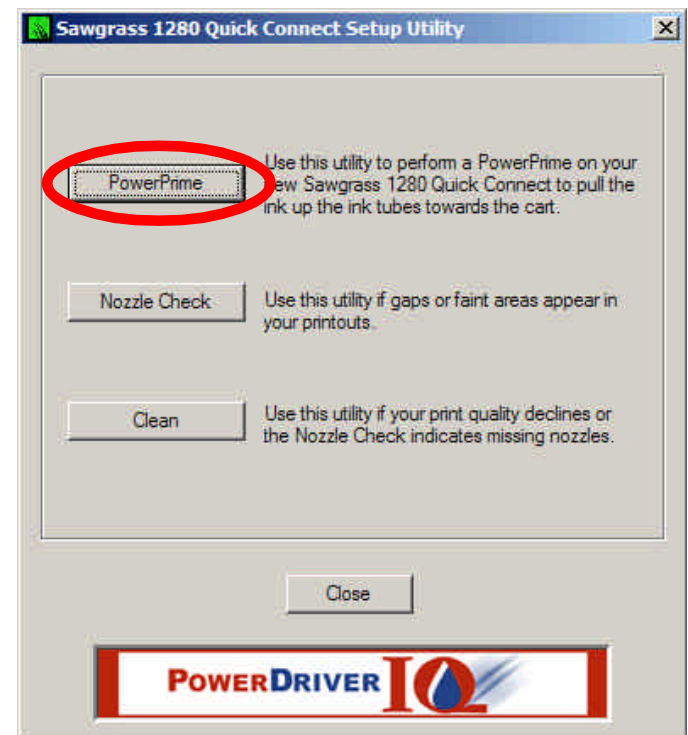

Fig. 4
- On the QC Utilities screen, click the **PowerPrime** button; see Fig 4.